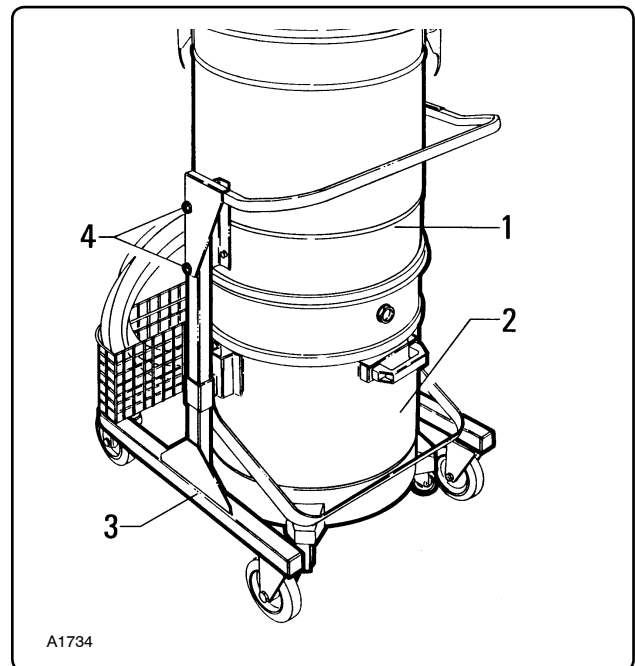

Fig. 7.5.8
7.5.6 - Checking the tightness of the filter chamber (fig. 7.5.8)